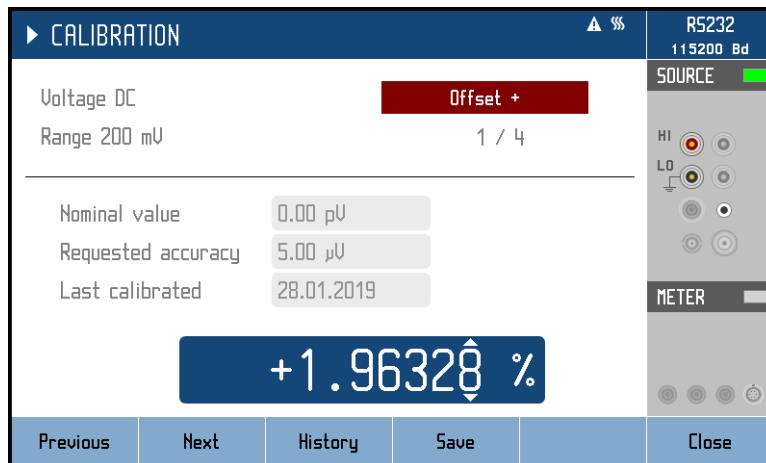

Figure 43 Calibration point adjustment - direct
- Values with other units (mostly used in meter functions or fixed source standards) can be calibrated indirectly by typing in meter readout. Figure 43 below shows an example of 100Ω point of fixed resistance function which has been adjusted by measuring resistance on output terminals with standard meter and typing in the standard readout (99.9955Ω)